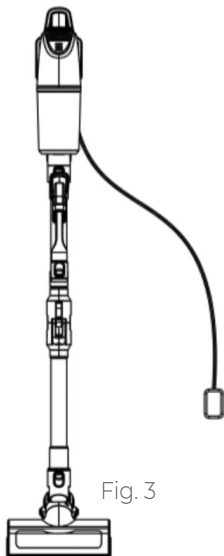

Fig. 3
3. To charge the vacuum cleaner, place the unit on the charging base, ensuring it is firmly secured into place. Then, connect the charger mains plug to a suitable mains outlet, as shown in Fig. 3. A blue LED indicator will light up and flash to indicate the unit is charging.